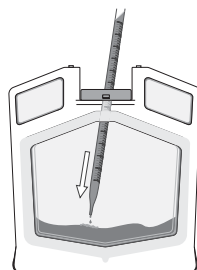

Figure 3 Add sample.
2. Using an appropriate device (refer to “Before you begin” on page 1), add the sample to the cassette, slowly withdrawing the pipette while dispensing. Do not overload the cassette (Figure 3).